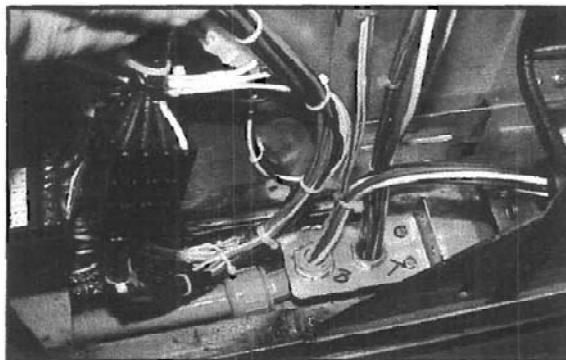

Figure 16C Conduit Bracket
- 8C. Refer to Figure 16C. Remove the two screws holding the conduit bracket in place in the bottom oven section. Slide the bracket out of the way and reinstall the two screws. This bracket needs to be loose so the wire harnesses can be routed out of the upper and lower oven sections to separate the three sections.